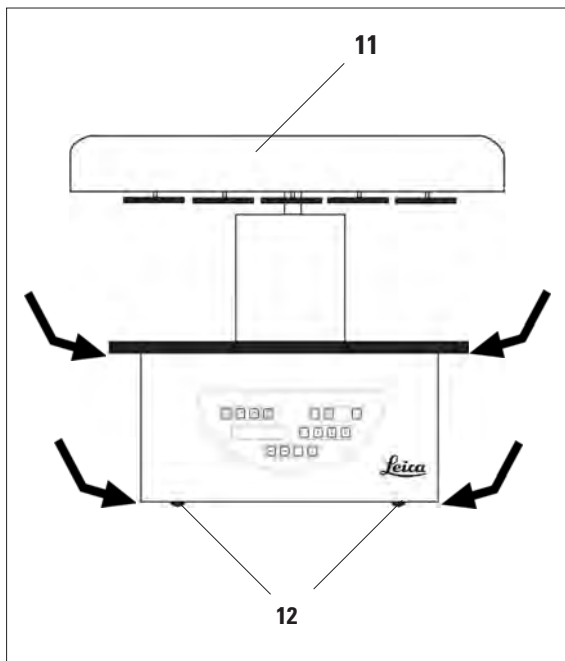

Fig. 11
- To lift up the instrument take it by the reagent container platform or by the lower end of the housing (**Fig. 11**) and lift it from the base plate (**8**).